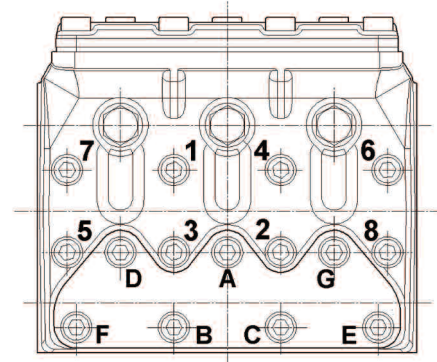

Fig. 24
D) To Reassemble the valves proceed the other way around, and tighten the cover screws with a torque wrench. The table on page 17 contains the screw tightening torque values and Fig. 24 indicated the sequence.
<p>* The conrod screws must be tightened as indicated in point D, page 13.</p> <p>** The valve plate must be tightened following the sequence indicated in fig. 28.</p> <p>*** The fluid end screws must be tightened in 2 stages following the sequence indicated in fig 24: First stage: 20 N-m Second Stage: 80 N-m</p>